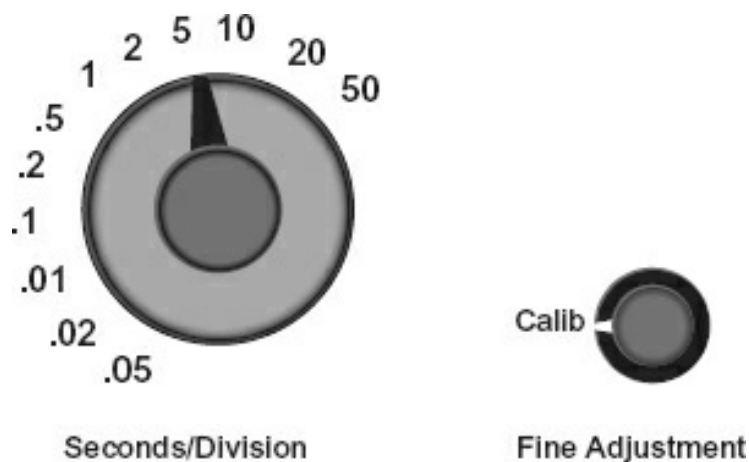

Figure 3-11. Horizontal time-base control.
1. **Time/Division (Time/Div) switch or sweep control** – A typical Time/Div (Time/Cm on some models) is illustrated in Figure 3-11.